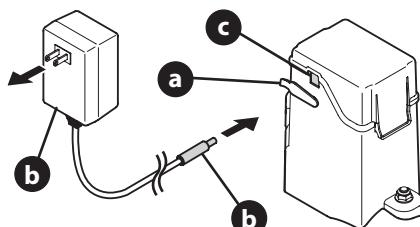

Figure 44
- Open the charging port cover (a) and plug the charger lead (b) into the charging port (c) (Figure 44).